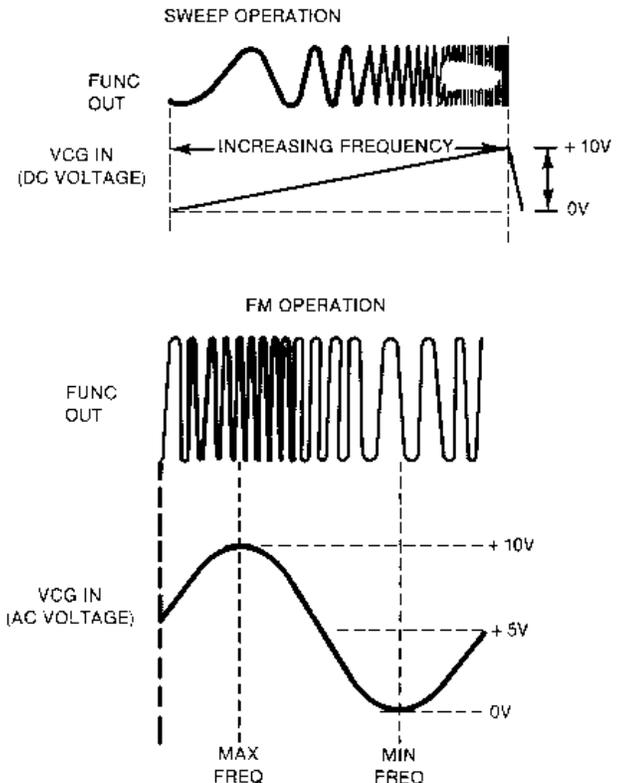

Figure 3-4. Sweep and FM Relationships
**20 VCG In (10K $\Omega$ ) Connector** (See figure 3-4). This connector inputs an external voltage to control the generator frequency for sweep or FM operation. Operation is limited to the front panel selected or preprogrammed frequency range. Input control voltages are limited to positive voltages between 0 and +10Vdc (+12Vdc on top range) or a 10 Vp-p maximum voltage centered at +5Vdc (12 Vp-p centered at 6Vdc for the top range). Positive-going voltage levels increase the frequency, while negative-going inputs decrease the frequency. Frequency excursions of 1000:1 (1200:1 on the top range) are possible in each of the frequency ranges. If the zero switch is pressed, the nine standard frequency ranges are down-shifted by 2 decades allowing a VCG bottom control range of 100  $\mu$ Hz. Input impedance is 10k $\Omega$  and maximum slew rate is 0.1V/ $\mu$ s.